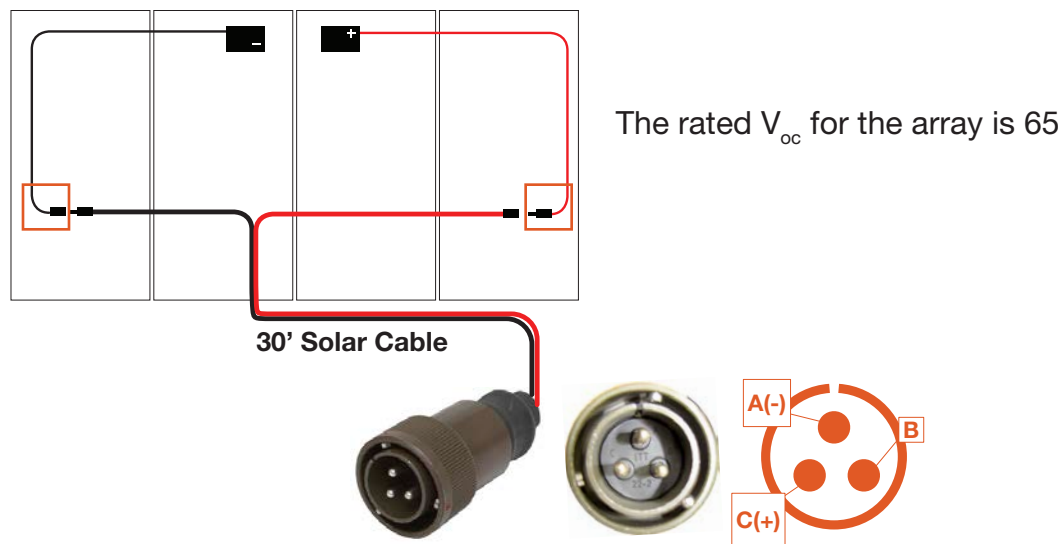

Figure 16. Measuring PV array open circuit voltage  $V_{oc}$
If a disparity in performance is observed during normal operation, measure the voltage of each array independently using a handheld multimeter (Figure 16) or the meters provided in the Power Hub User Interface.
- Carefully place the leads of the voltmeter on pins A and C in the bayonet connector (Figure 16) at the end of the Solar Cable. Pin B is unused.
- Alternatively, disconnect the Solar Cable from the array leads and place the meter probes into the array lead connectors (orange boxes in Figure 16).